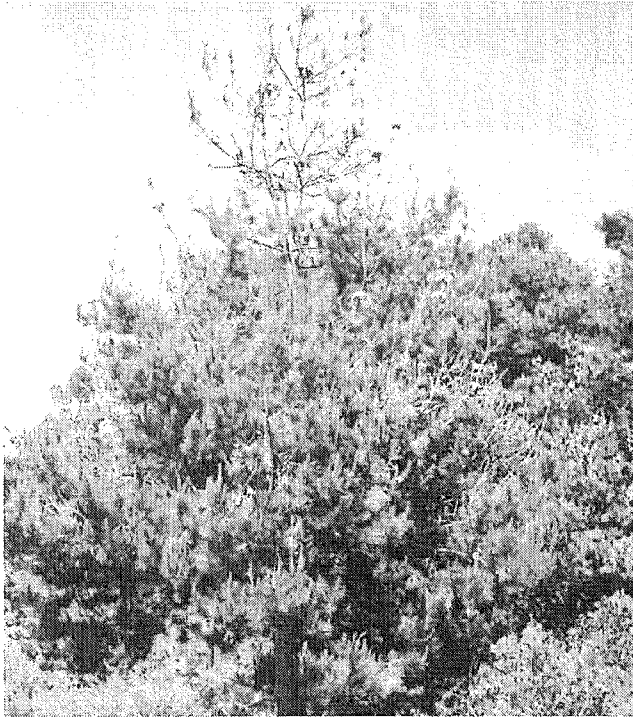

Figure 1. Multiple branch tip infections and dead tree top resulting from pitch canker in Monterey pine.
A. Pitch Canker is a disease that causes die-back of individual pine branches (Figure 1), leading to a general decline in tree health, and, in some cases, premature death. This disease mainly affects pine trees in central coastal areas of California.